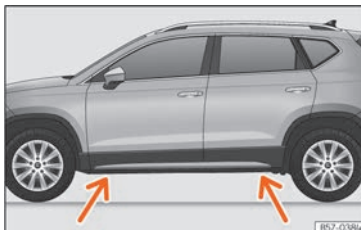

Fig. 221 Jack position points.
- Look on the strut for the mark of the jack support point (sunken area) closest to the wheel to be changed >>> **Fig. 221**.